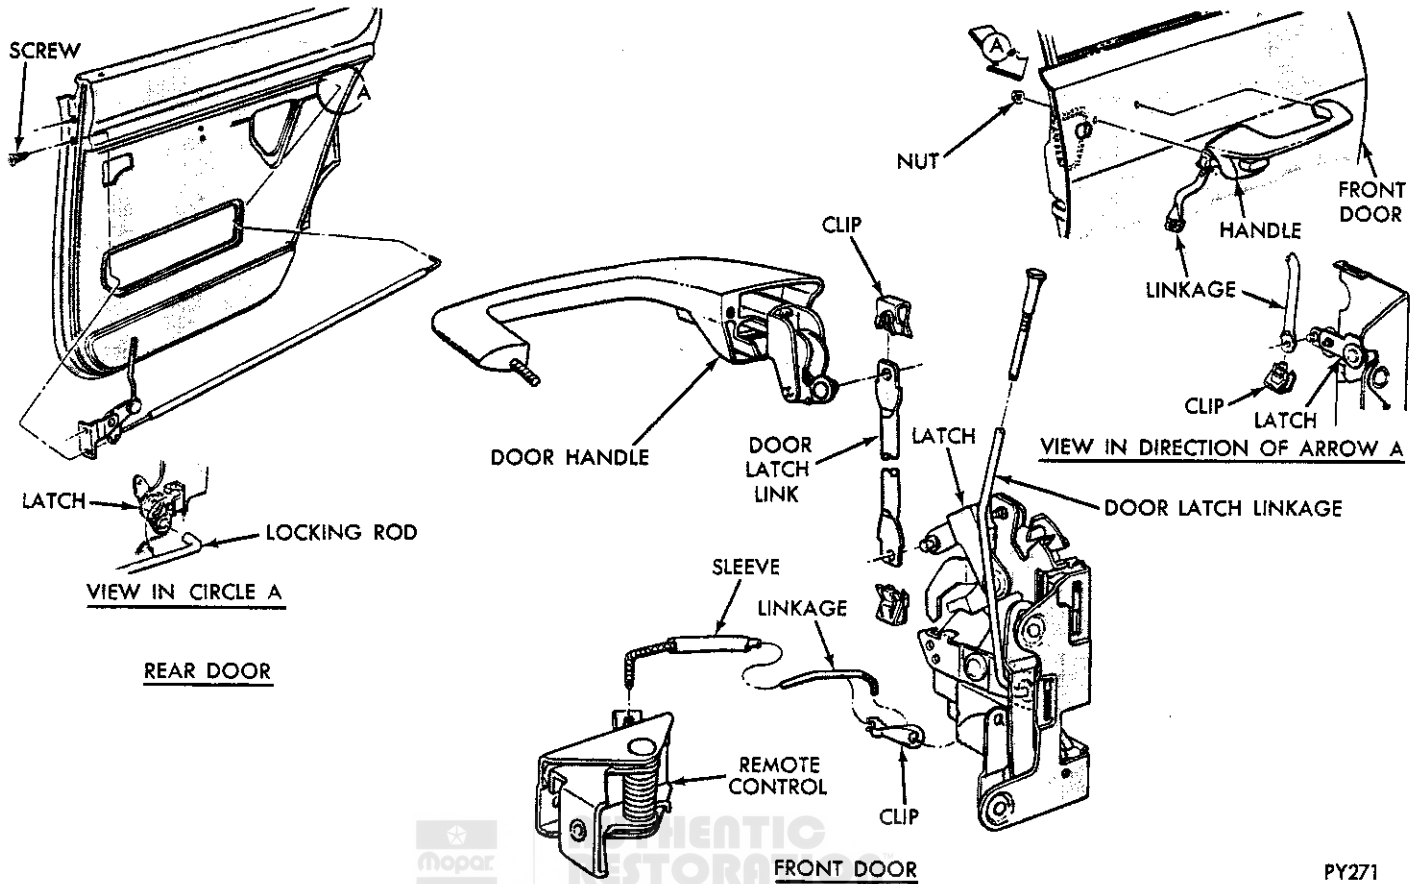

Fig. 19—Front and Rear Door Locking Control
- (1) Raise door glass and remove remote control base to door panel screws (Fig. 19).